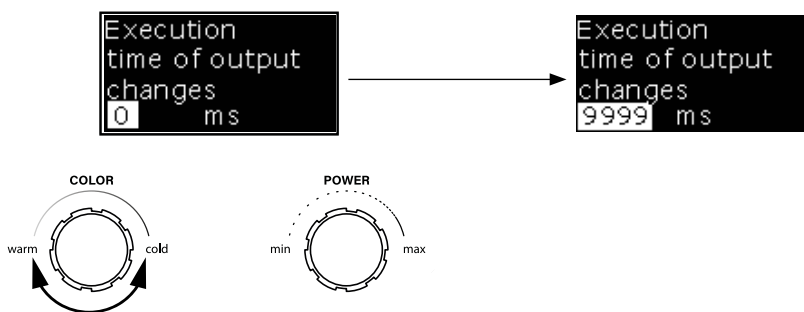

Fig. 47
2. When **dt\_out\_stp** is set to 0 ms, the transitions between the different controller parameter states are instant and you can visually see a step change in brightness and temperature at low power values. Rotation of the left encoder knob changes the parameter which represents the time of smooth transition between states in milliseconds. It is possible to set the transition time from 1 ms to 9999 ms (Fig.47).